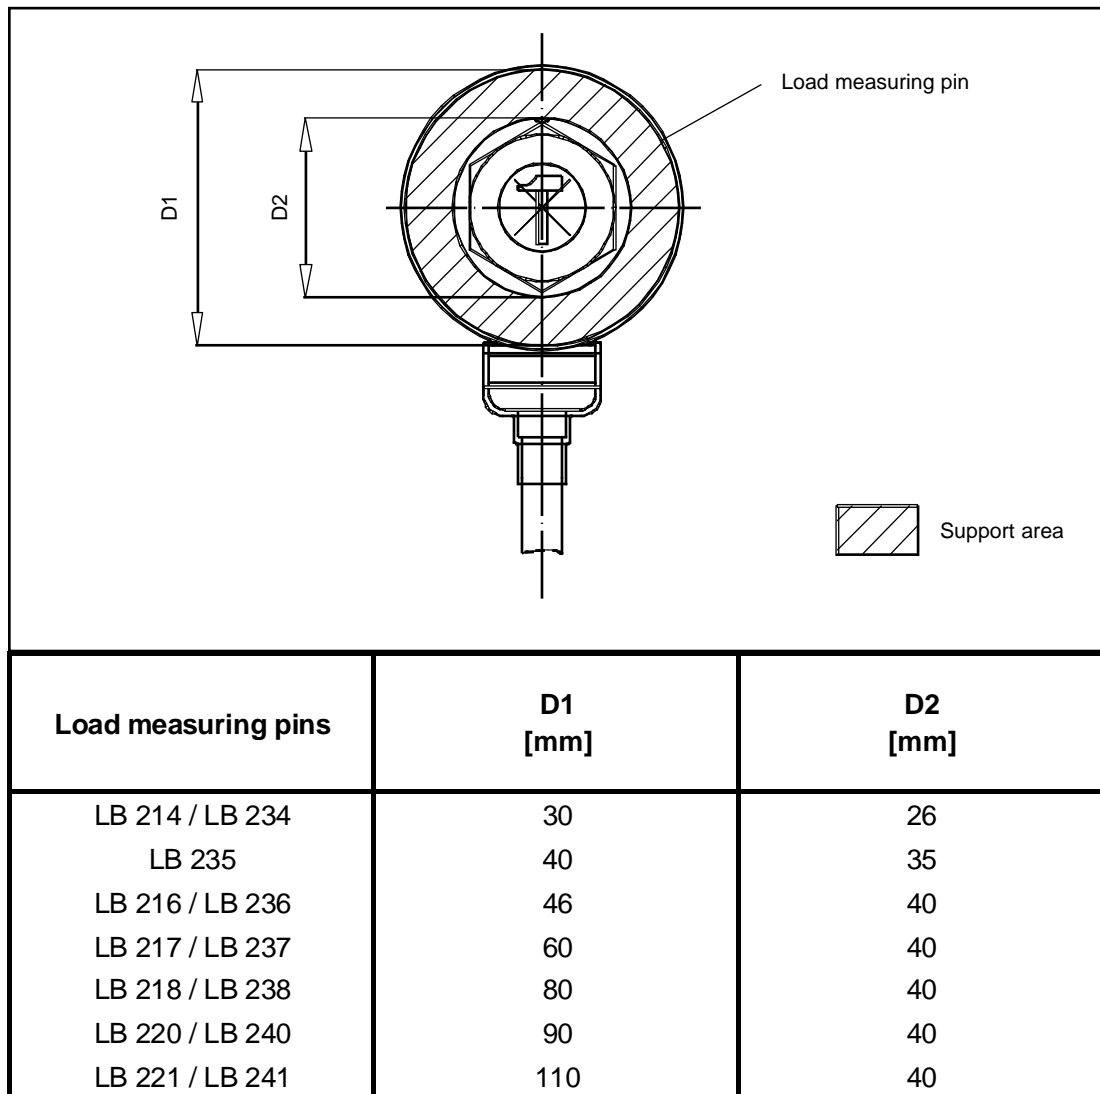

Fig. 4-8 : Support area on the end of the load measuring pin for a sleeve tube or a muff.
- For small size load measuring pins without extraction screw threads use a sleeve tube or a muff made in a metal of lesser stiffness than that of the pin (e.g. bronze, brass). Place the tube against the pin end opposite the stuffing gland or electrical connector, taking care not to touch the hexagonal cover (see figure 4-8). Now hit the tube with a plasticized hammer (shock absorption) to push the load measuring pin out of its seat. It is also possible to use a wooden cylinder for this operation.